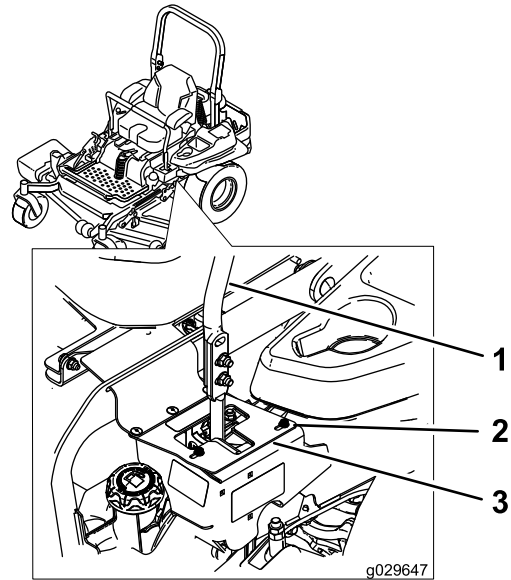

Figure 65
6. If it tracks to the right, loosen the bolts and adjust the left stop plate rearward on the left T-slot until the machine tracks straight (Figure 65).
7. If it tracks to the left, loosen the bolts and adjust the right stop plate rearward on the right T-slot until the machine tracks straight (Figure 65).
8. Tighten the stop plate (Figure 65).